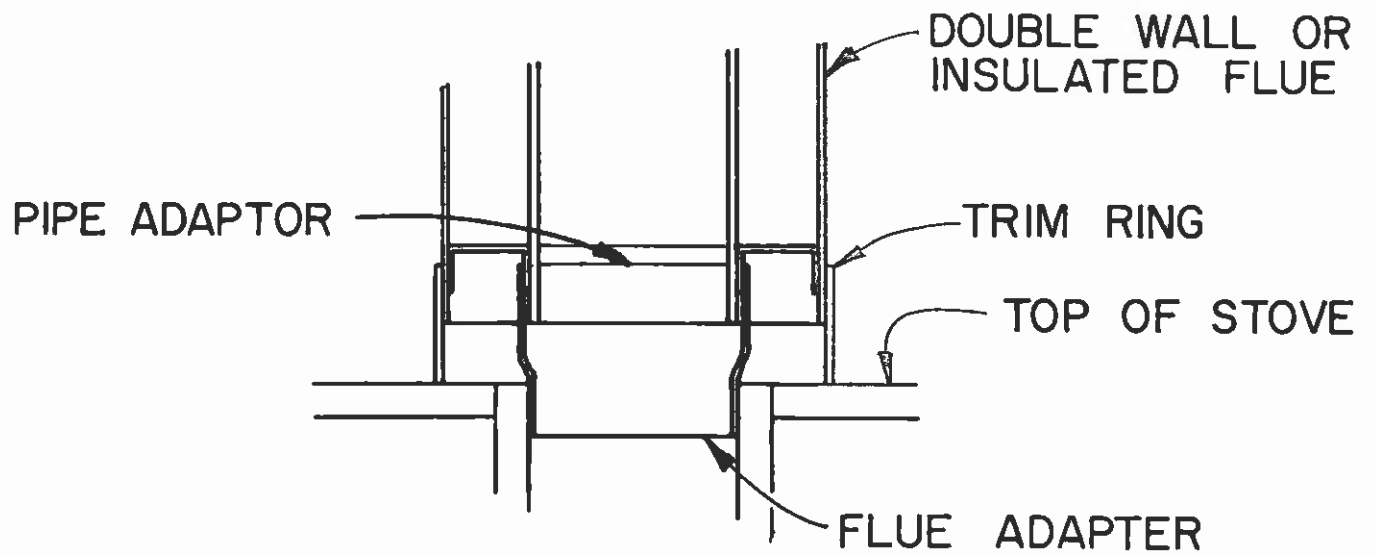

FIGURE 6
3. When using Dura-vent, Metalbestos, Security Chimney, or Jackes-Evans (GWS), a flue adapter and a trim ring must be used. (See figure 6).